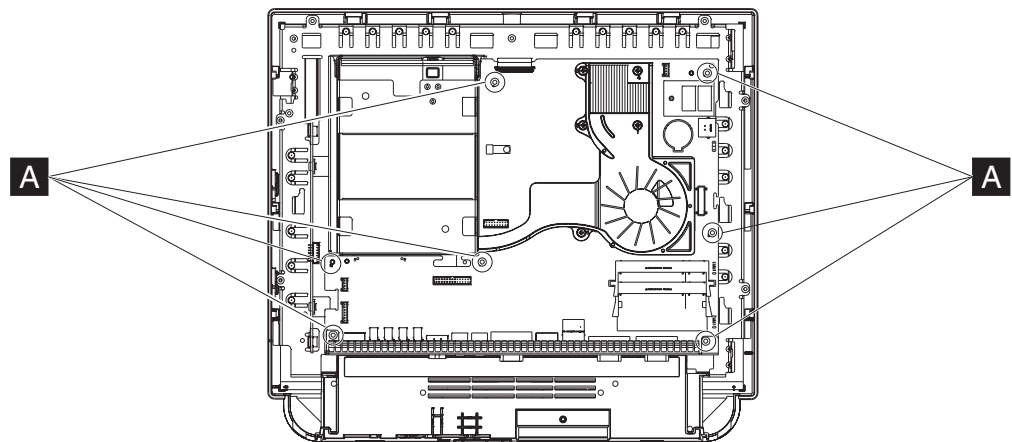

Figure 33. Removing the system board
6. See Figure 33 and remove the 6 non-captured screws (**A**) that hold the system board.